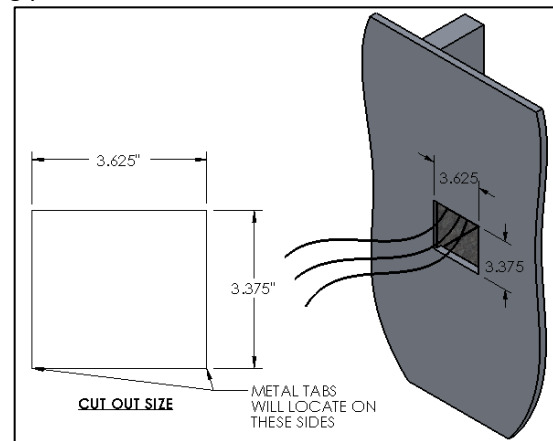

FIG. 16- J-BOX ASSEMBLY AND CEILING CUT OUT
8. Attach the desired ceiling covering and finish accordingly as shown in FIG. 16.